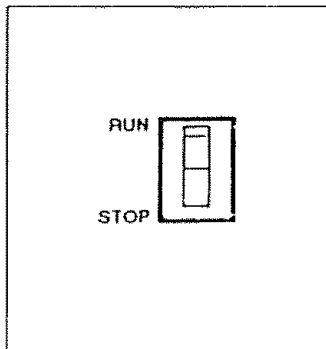

FIG. 7
- Set the engine ignition switch (Fig. 7) to ON (-).
- Set the Engine Run/Stop Switch to STOP. Wait for engine to come to a complete stop (Fig. 7).